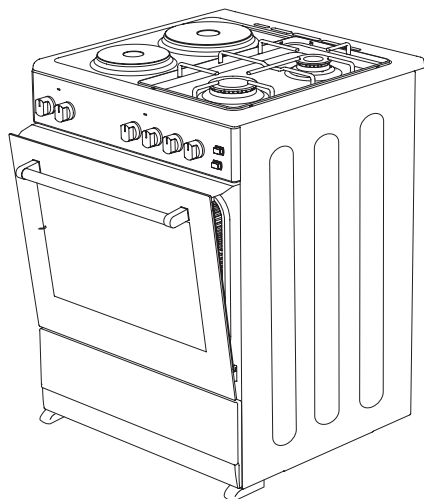

Figure 27
3. Place the safety panel under control panel by opening the oven front cover glass (Figure 27)